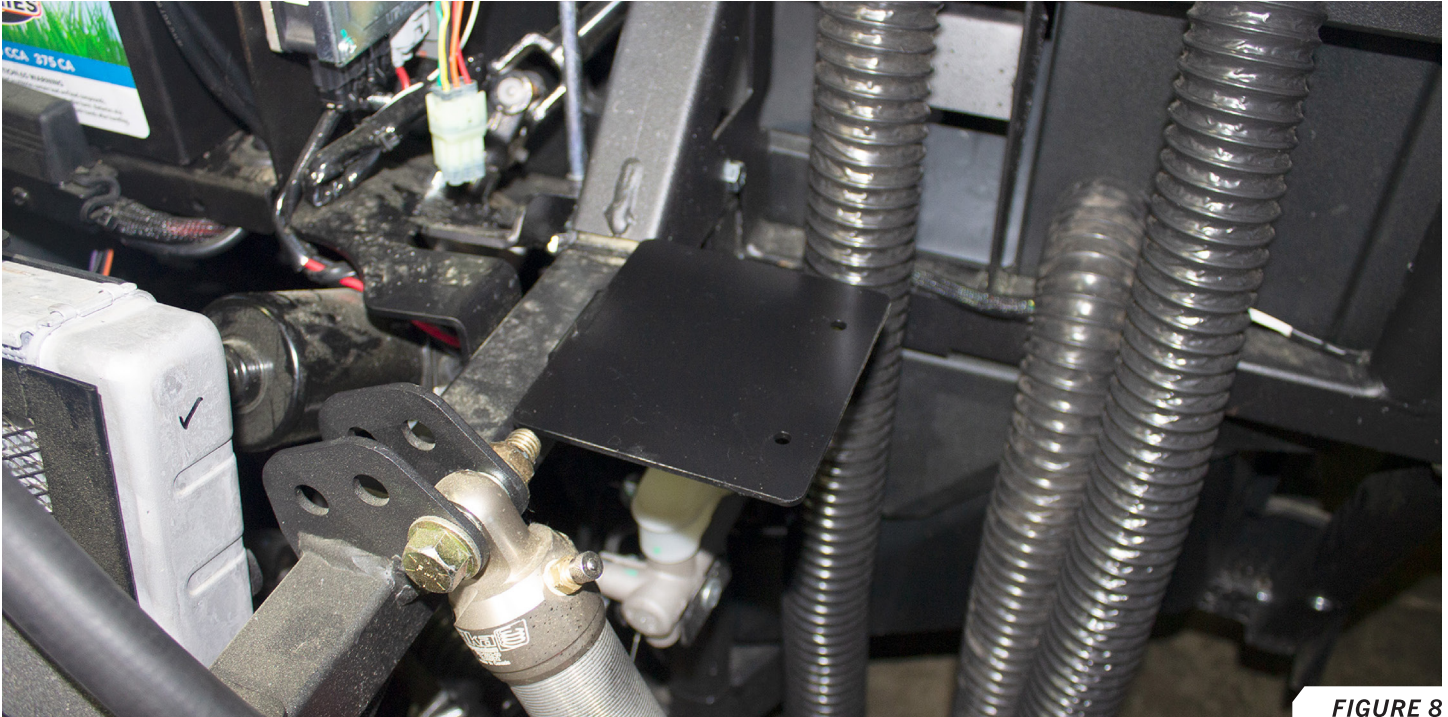

FIGURE 8
20. Attach the HT_CU_472-1 heater bracket to the mounting location. **FIGURE 8**